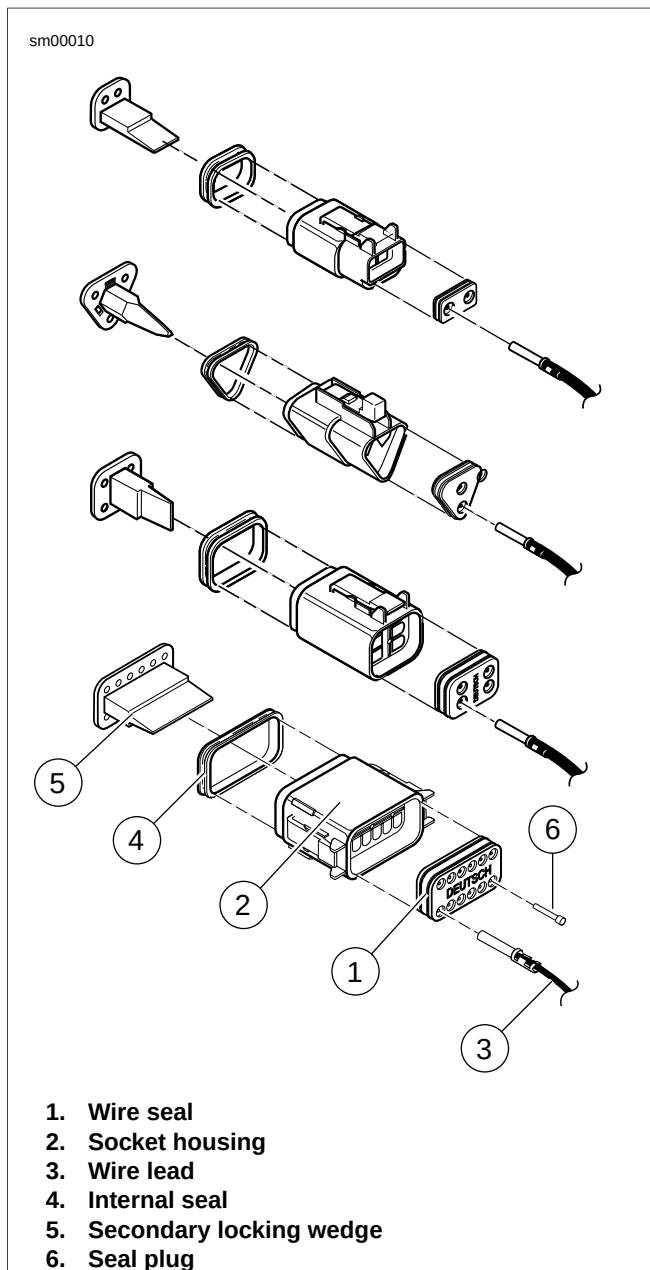

Figure A-18. Deutsch Connector: 2, 3, 4 and 12-Place Socket Housings
2. See Figure A-18. Fit rear wire seal (1) into back of socket housing (2), if removed.
3. Grasp wire lead (3) approximately 1.0 in. (25.4 mm) behind the socket terminal. Gently push socket through hole in wire seal into its chambers until it "clicks" in place.